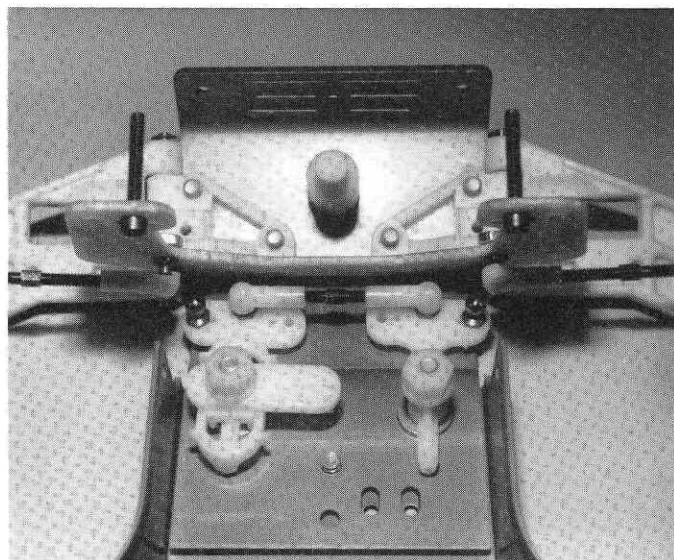

Fig. 25
- ☐ **Fig. 25** Place the servo saver onto the 2 screws, as shown. Take the 2 nylon nuts and screw them down until the servo saver starts to tighten, then back the nuts off about 1/2 turn until the servo saver arms pivot freely. (Ignore the tube struts shown in photo. They will be installed later.)